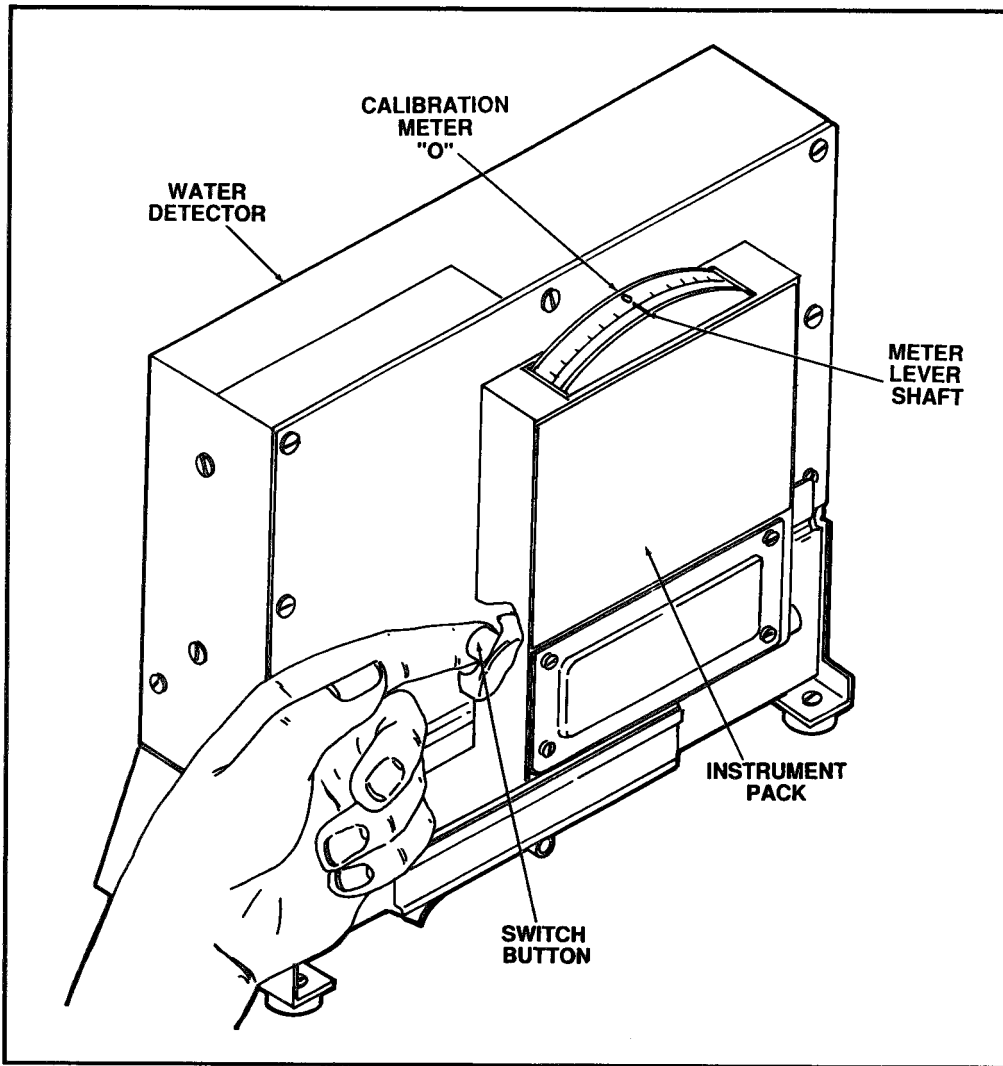

Figure 2.25 Calibration Meter Lever Shaft Reading "0"
- e. Depress the switch button on the instrument pack and read the calibration meter: if the meter reads “0”, the water detector calibration procedure is complete (Figure 2.25). If the meter reads any increment other than “0”, you must adjust the internal calibration screw until the water detector is “zeroed-out” (i.e., the meter lever shaft reads “0”). See **f.**, **g.**, and **h.** below for instructions. Also refer to the calibration card stored with Kit Find No. 34.